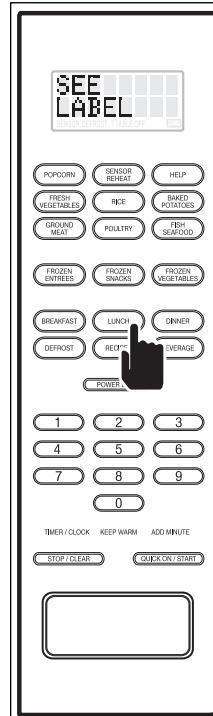

Figure 3-63.
1. Press the desired Auto Meal /Beverage / Recipe Cook Mode key. For example, by pressing the LUNCH key, "SEE LABEL - SELECT FOOD - NUMBER" flashes on the display (See Figure 3-63).